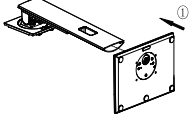

Figure 1
- ① Push the slider on the VESA cover of the base upwards, and tilt the the entire base in the direction of the arrow, as shown in Figure 1.
② Remove the entire base in the direction of the arrow.
③ Loosen the screws from the base and remove the base.